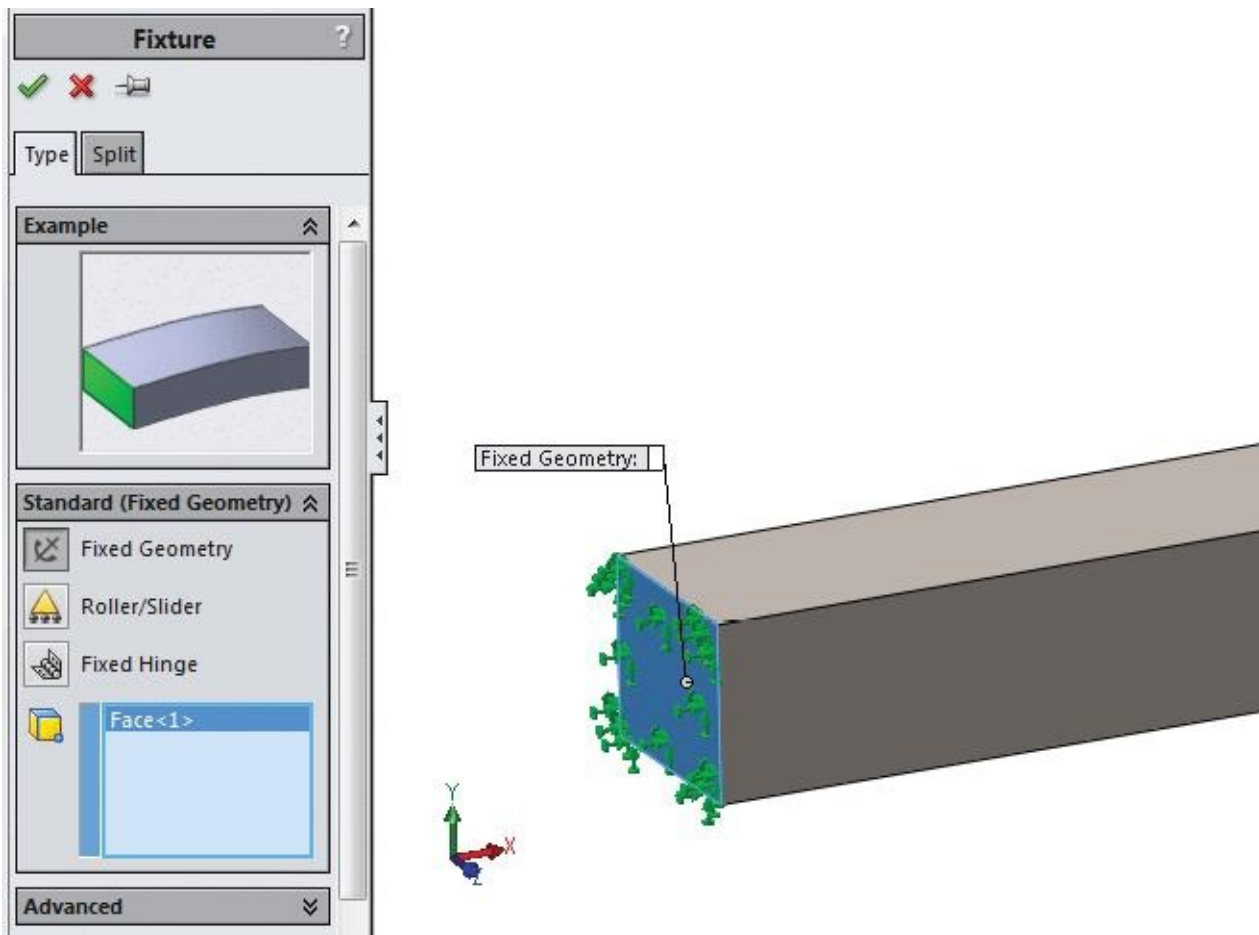

Figure-12. Face selected for fixing
- Select the face that you want to be fixed; refer to Figure-12.